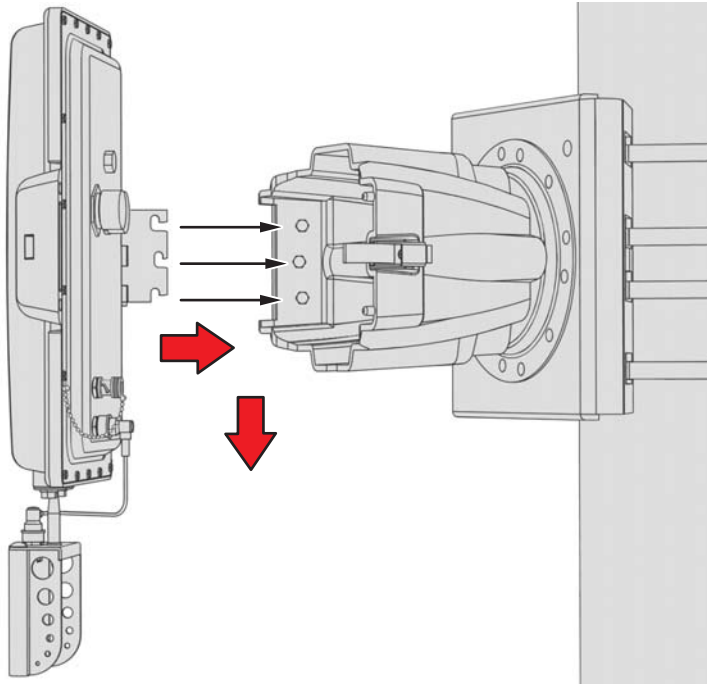

Figure 13. Attaching the EW5001 to the J-Box
7. Hang the hinge of the EW5001 onto the hinge bolts in the J-box (refer to Figure 13).